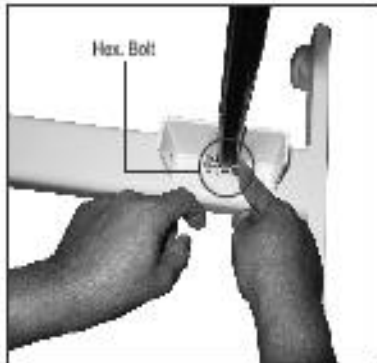

Fig 1
- Fix the gas spring on the frame base with the hex bolt (Fig 1).